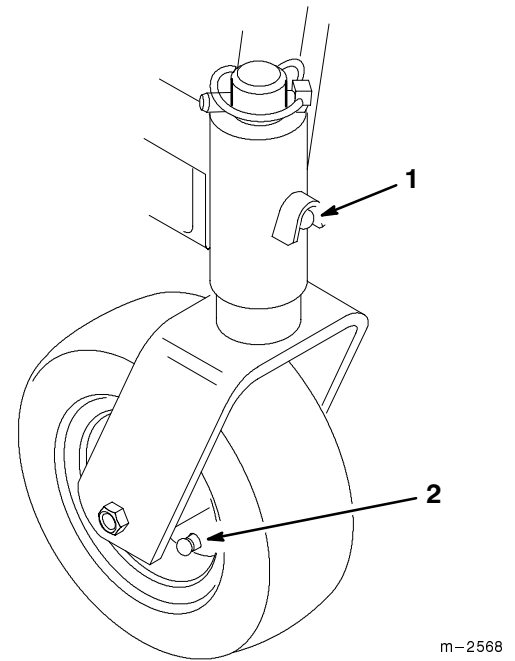

Figure 22
2. Grease the fittings on the carrier frame mounting tubes and castor wheels (Fig. 22).